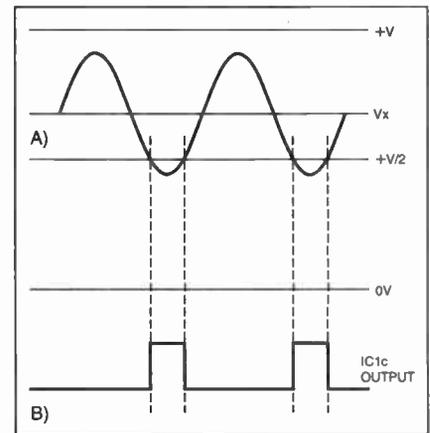

Fig.4. Switching waveforms.
This can be set so that when no metal is present the output from IC1c only just switches on the negative peaks of the signal as shown in Fig.4. This shows the input to IC1c at (A), where V_x is the bias voltage from VR1, with the output from IC1c at (B).